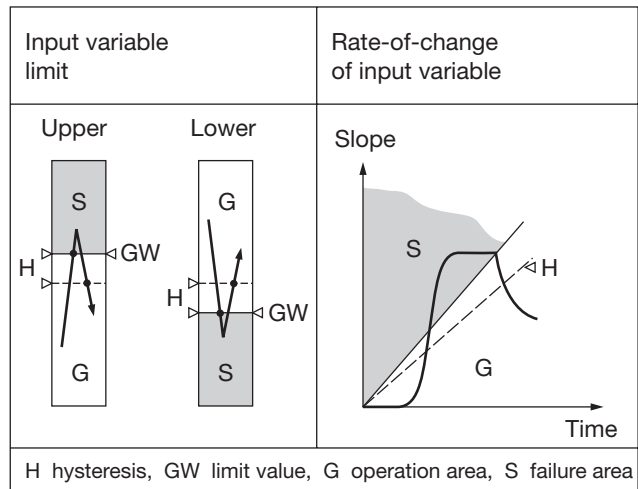

Fig. 3
- for monitoring the input variable in relation to a lower or upper limit between -10 and + 110%² (see left side of Fig. 3)
between ± 1 and ± 50%/s (see right side of Fig. 3)